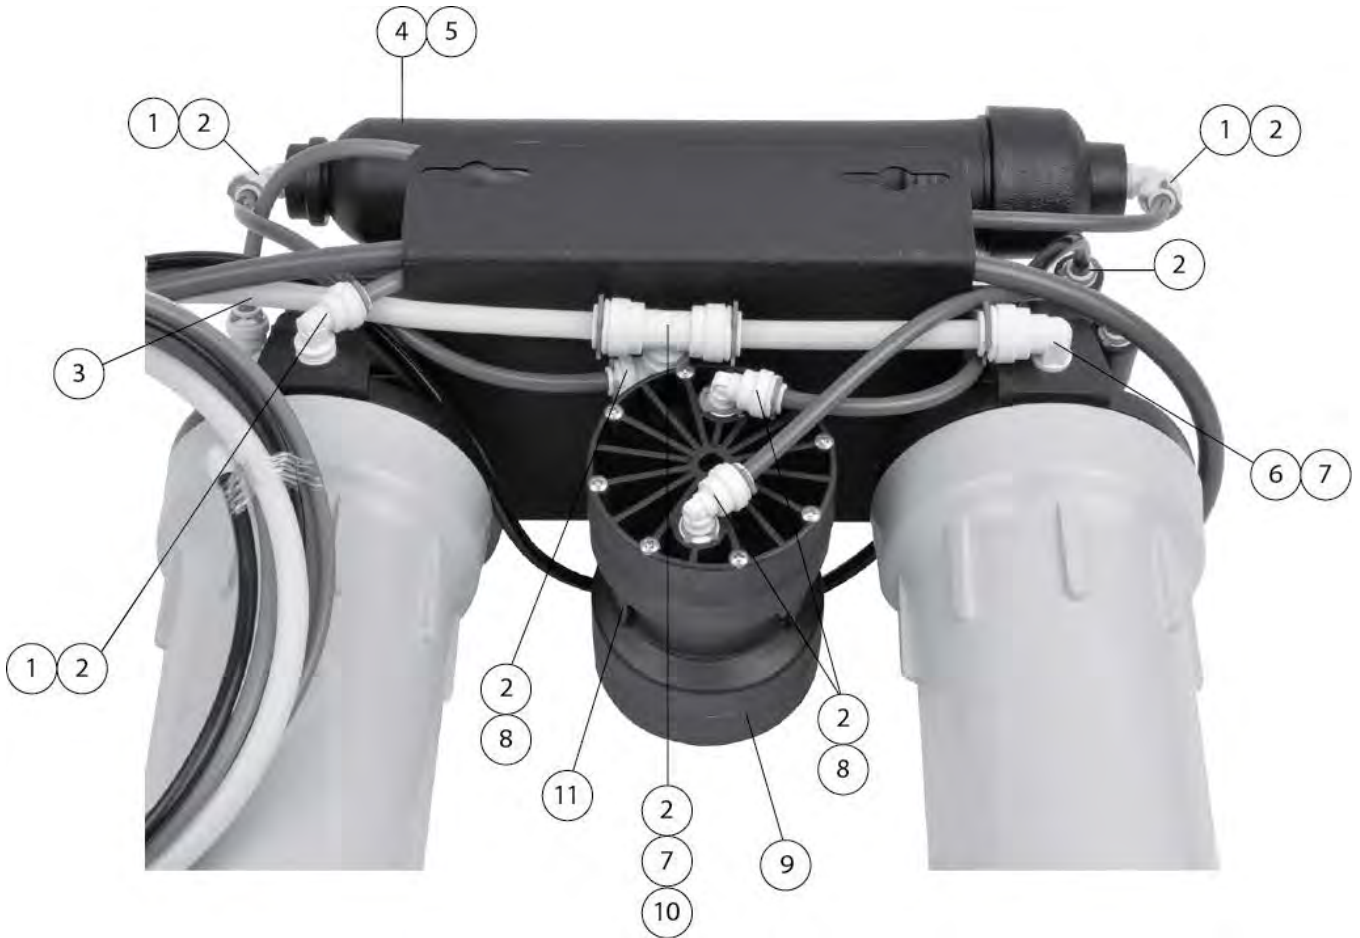

Figure 17: H6500 RO Assembly (Back View)
4. Remove the 1/4-inch red locking clip from the elbow on the "OUT" port of the pre-filter cap, (See Figure 17, Item 2). Disconnect the red tube.
5. Remove the 1/4-inch red locking clip from the 3/8-inch x 3/8-inch x 1/4-inch reducing tee, (See Figure 17, Item 7) and disconnect the 1/4-inch blue tube from the 1/4-inch branch of the reducing tee. Use a suitable length of 1/4-inch polyethylene tubing and connect to the elbow and tee connections.